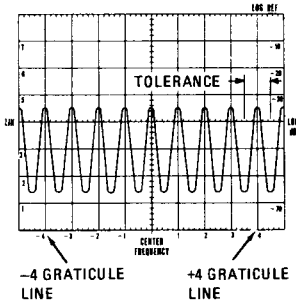

Figure 4-3. Scan Width Accuracy Display
2. Note that a 20 kHz marker appears at about every major division on the CRT display. Tune FREQUENCY and FINE TUNE to center a marker on the –4 graticule line (see Figure 4-3).